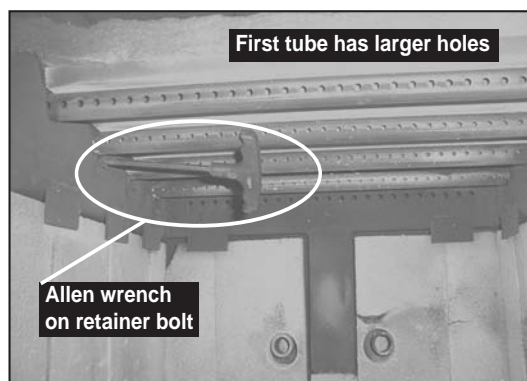

Figure 36.1
3. With a 3/16 inch Allen wrench, remove 2 front manifold tube retainer bolts on the air channel under the end of the front tubes. **NOTE:** Soak the bolts with penetrating oil for at least 15 minutes before trying to remove them. **Figure 36.1.**